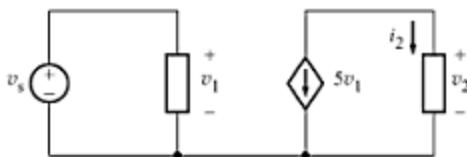

Fig. A-56
- A-7. For the circuit shown in Fig. A-56, if $v_2 = 1000i_2$ and $i_2 = 5 \text{ mA}$, determine v_5 . [Ans. -1 mV]